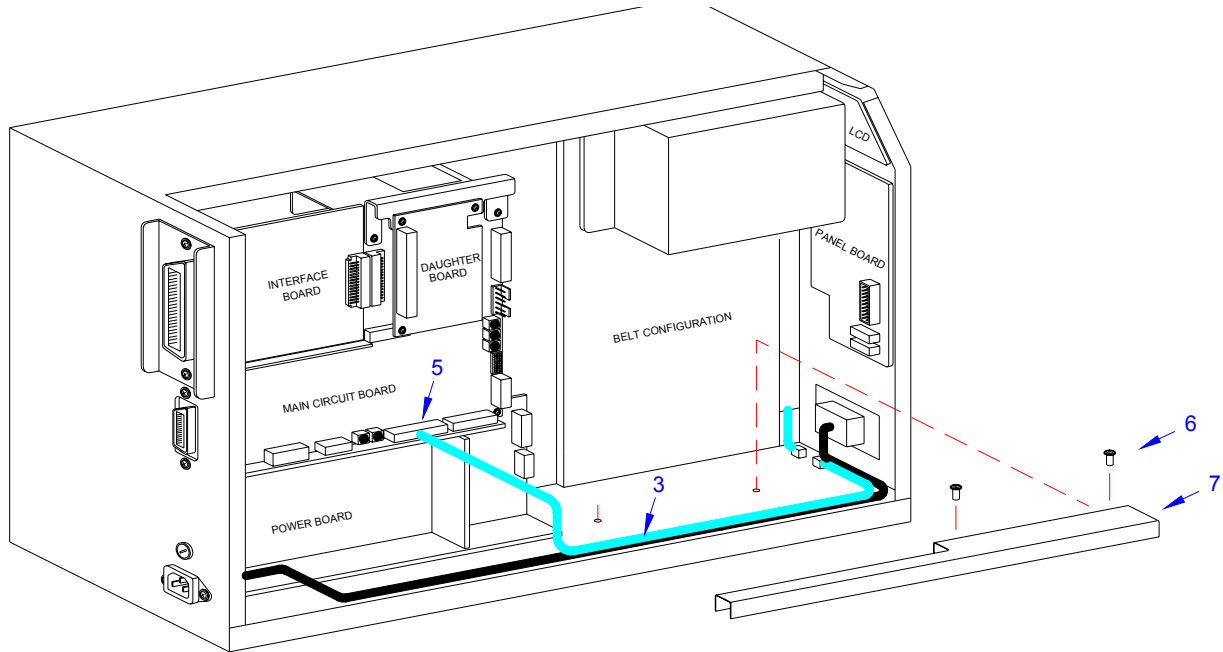

Figure 4-2c, Dispenser Installation
- 7 Connect dispenser wiring harness (3, Figure 4-2c) with free end of wiring harness connected to CN10 port (5) of main circuit board.
- 8 Remove two screws (6) securing cable shield (7).
- 9 Encase cutter wiring harness (3) along with the power cable, in cable shield (7) and secure using two screws (6).